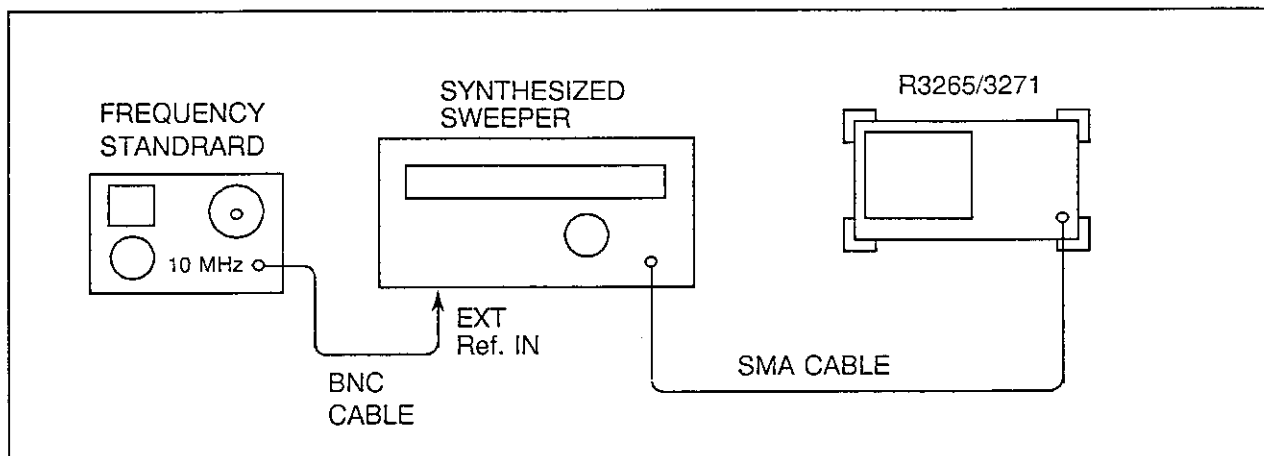

Figure 4-1. Frequency Readout and Frequency Counter Marker Accuracy Test Setup
(1) Connect the equipment as shown in Figure 4-1